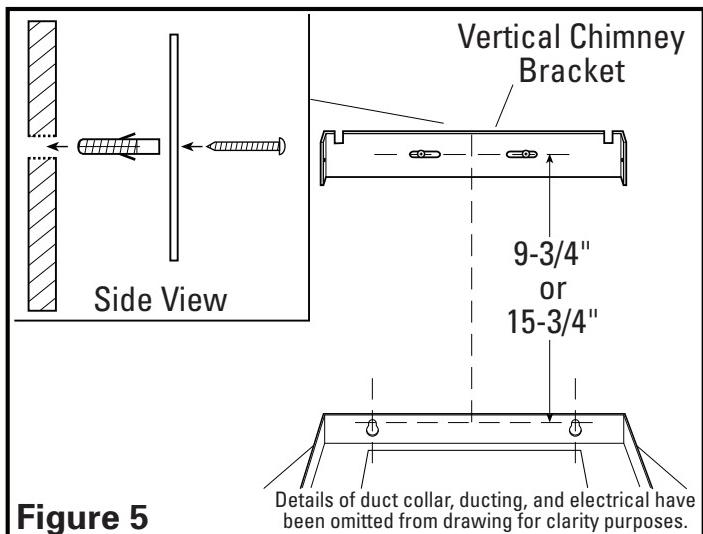

**Figure 8**
- To install the upper section, mark the location of the included horizontal mounting bracket using the bracket as a template. Make sure the bracket is level and in line with the bottom section. The height will be dependent on your installation requirements. Make sure the slots in the side of the chimney will match the holes in the mounting bracket. If installing onto drywall, drill holes into wall using a 3/16" drill bit. Install wall anchors into the drilled holes (one for each hole). Secure bracket into place with (2) provided #6 x 1" screws. If installing into other material (brick, cement, plaster, etc.) choose an appropriate fastener capable of supporting the weight of the chimney (**Figure 8**).
5. Raise top chimney in place over horizontal mounting bracket and secure in place with the two included #6 x 3/8" screws (**Figure 8**).